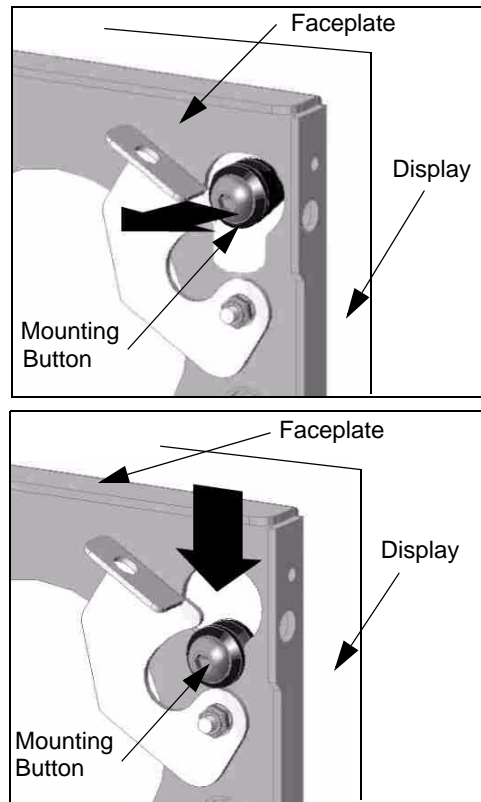
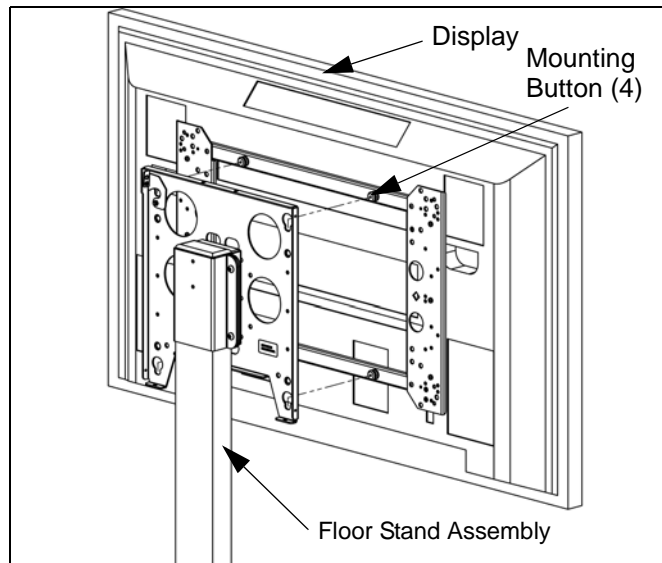

Figure 10: Align Display
Figure 9: Align Display With Floor Stand
2. Using two people, lift display and position in front of mount aligning four Mounting Buttons with four teardrop mounting holes in Faceplate. (see Figure 9: and Figure 10:)
3. Move display forward until all four Mounting Buttons are through teardrop mounting holes in Faceplate, and recessed area of Mounting Buttons is aligned with lower area of teardrop mounting holes. (see Figure 10:)
4. Lower display until recessed area of Mounting Buttons is seated into lower area of teardrop mounting holes in Faceplate. (see Figure 10:)
4. Using two people, lift display and align four Mounting Buttons with upper area of four teardrop mounting holes in Faceplate. (see Figure 9: and Figure 10:)